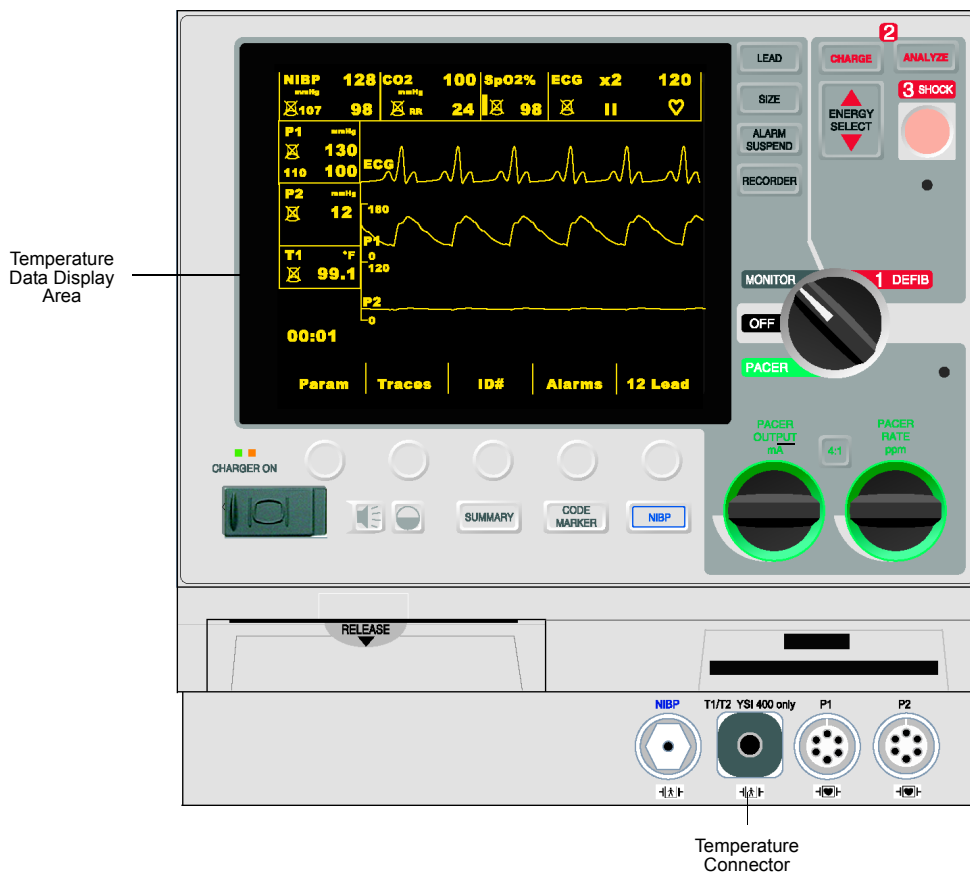
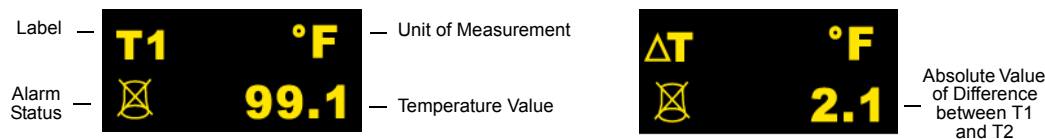

Figure 1: M Series Front Panel with Temperature Option
Figure 2: Temperature Data Display Area
4. If you are using two temperature probes, connect Y-adapter to temperature connector on the front panel of the M Series unit (see Figure 1: on page 3).
If the temperature probe and cable are properly attached, the temperature values display immediately (see Fig. 1 and Fig. 2). When reading the temperature values on the display, keep in mind that the location of the probe on the patient can influence temperature measurements.